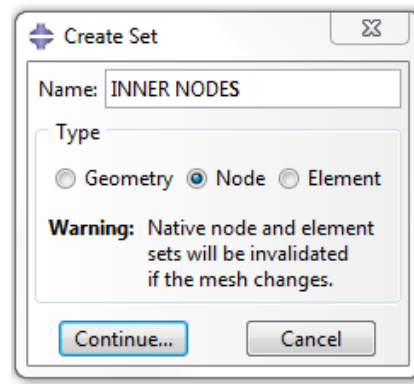

**Figure 33.** Sets Option in Model Tree
- Double click **Sets** in the model tree. Make sure to double click the Sets option that is underneath the I-BEAM **Part** in the model tree (Figure 33).